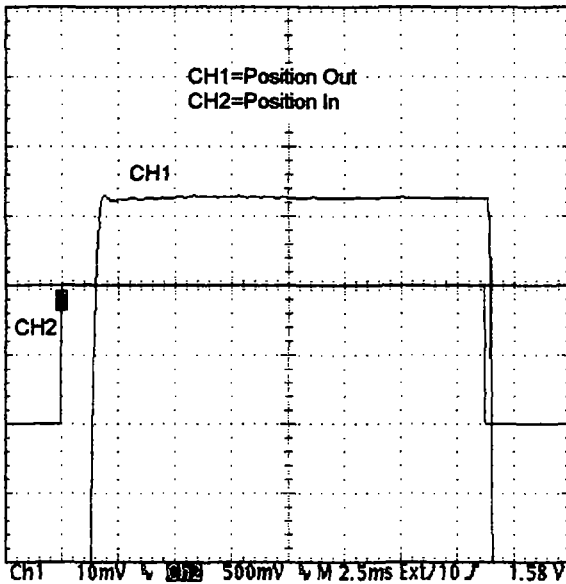

Figure 12.
8. Turn R28 CW to eliminate the first overshoot. See figure 12.